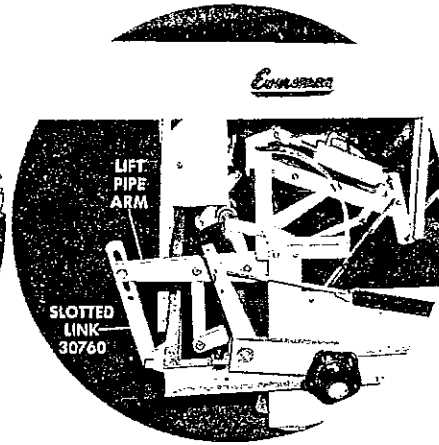

Figure 19
Correct hitch adjustment is most important for satisfactory leveling operation. *The hydraulic cylinder must be set so the lift pipe arms are near the center of the slotted links (30760) (see Figure 19).*
3. With your tractor hydraulic control, set the cylinder so the ends of the *lift pipe arms* are *in the center of the slotted links*—free to work up and down equally. (see Figure 19) The gauge pointer should then be in the automatic range. (see note No. 1 below)
Figure 19 shows the side spring in the center position for average tension. Three different holes are provided for varying spring tension adjustment. Use lower spring tension setting for heavy, cloddy ground. Use higher settings for light, loose or damp ground. Average conditions will have the spring in the center hole. Be sure that both springs are set in same hole on each side. Lifting machine fully with cylinder relieves tension in the side springs and will aid in changing their position.